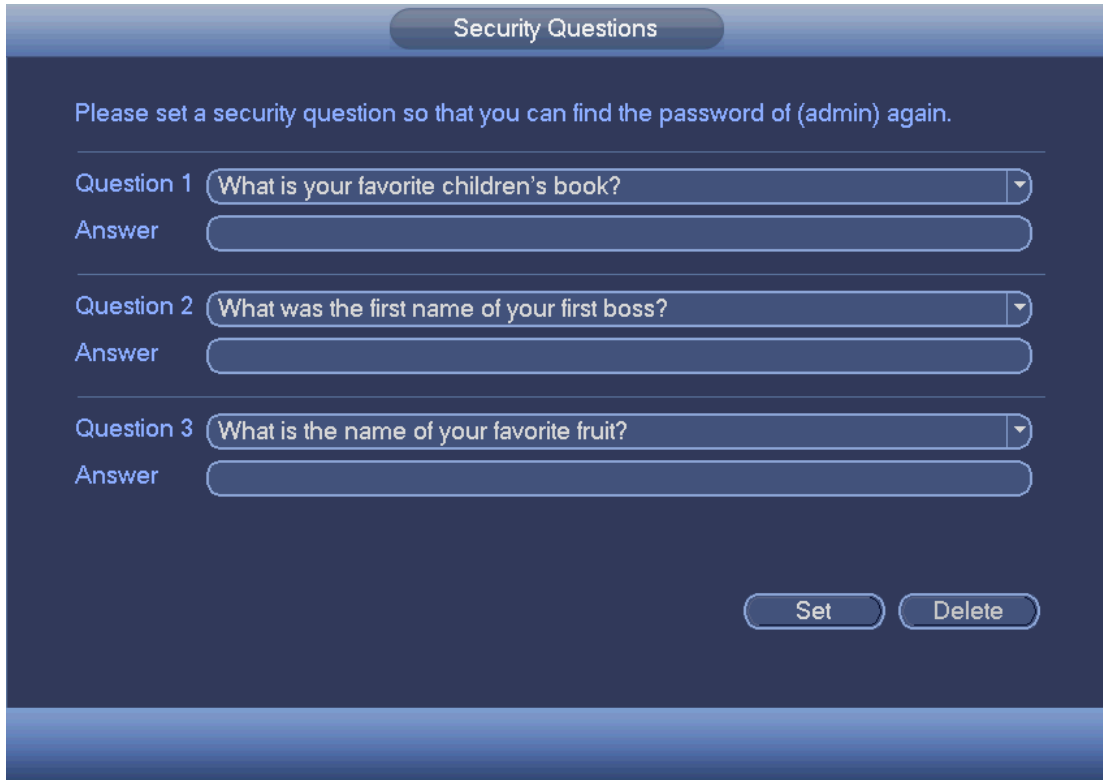

Figure 4-223
Step 1 Click Security question, enter the following interface. See Figure 4-223.